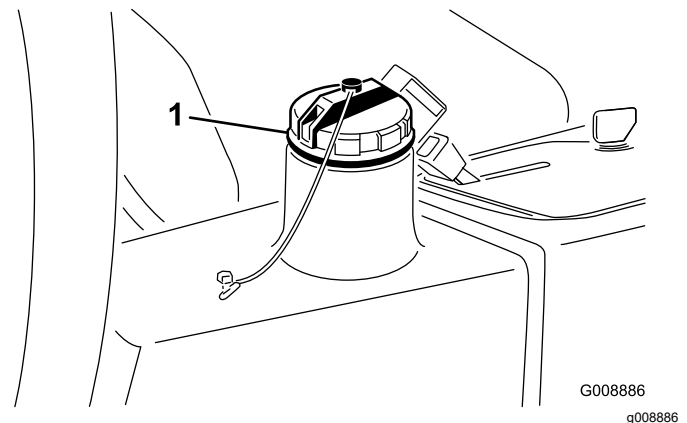

Figure 66
3. Fill the reservoir (Figure 66) with approximately 13.2 liters (3.5 U.S. gallons) of hydraulic fluid; refer to Checking the Hydraulic System.